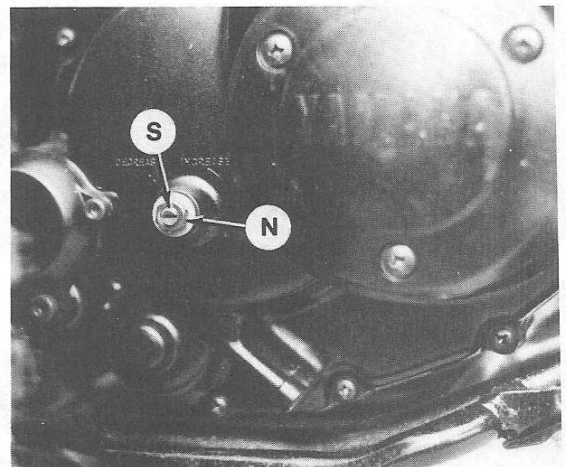

Fig. Y6-13—View showing location of clutch adjusting screw. Refer to text for adjustment procedure.
To adjust clutch, loosen locknut (N—Fig. Y6-13). Turn adjuster screw (S) counterclockwise until resistance is felt then turn screw $\frac{1}{8}$ turn clockwise. Retighten locknut.